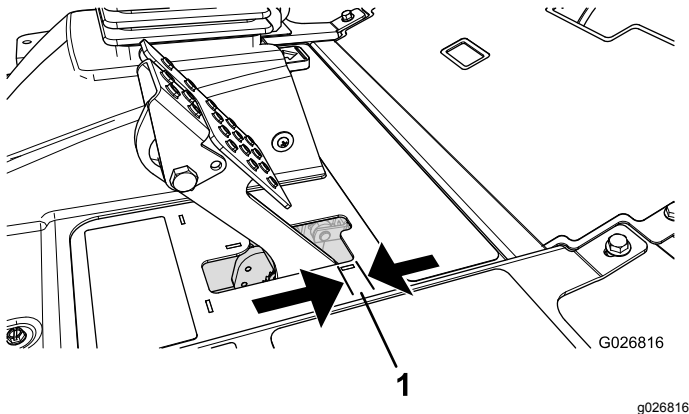

Figure 70
Adjust the brakes when there is more than 2.5 cm (1 inch) of free travel (Figure 70) of the brake pedal, or when more holding force is required. Free travel is the distance the brake pedal moves before you feel braking resistance.
2. Tighten the rear nut to move the cable backward until brake pedals have 0.63 to 1.27 cm (1/4 to 1/2 inch) of free travel (Figure 70), before wheel lock up is achieved.